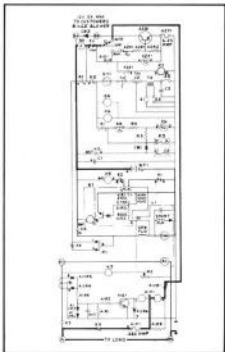

FIGURE 5-3. LOAD DEMAND (SPEC D)
- If unit stops with 100 watt load, move toggle switch to OFF position. Remove cover from A-K¹ printed circuit board. Connect a jumper wire from terminal C of Relay A-K¹ to the ground terminal in the Control-O-Matic. Move toggle switch to AUTO. Unit should start and run. If it does not, remove relay to check continuity of relay coil terminals A, B and C of 307-1087. Resistance A-C equals approximately 34 ohms. See Figure 5-3. Apply 6 to 12 volts to terminals A-C to see if relay operates. When relay operates, contacts should close.